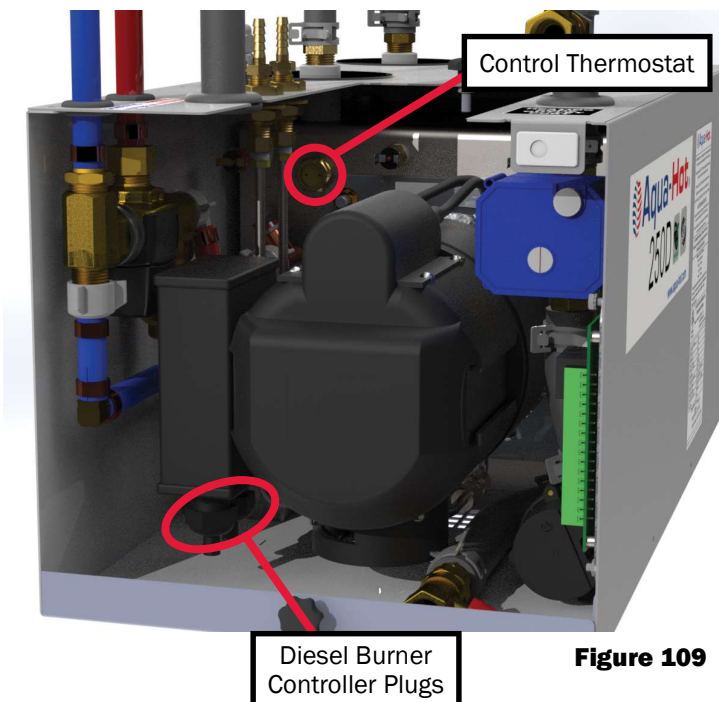

Figure 109
- Unplugging the diesel burner controller (Figure 109)